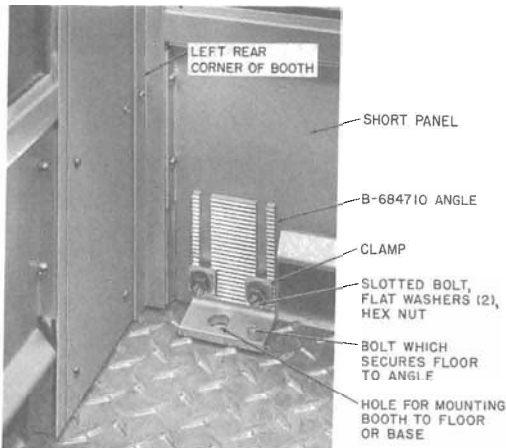

Fig. 11—Anchor Bracket and Leveling Device
2.21 Adjustable mounting angles are provided to facilitate booth leveling up to 3 inches (Fig. 11). They are also used for bolting the booth to its mounting surface.
- If a KS-19580, List 28 foundation template is used, remove insert plugs from template and secure anchor brackets (Fig. 11) to template using four 3/8-16 by 1-1/4 hex head
(d) Adjust the anchor brackets (Fig. 11) if necessary, and ensure that the booth is level.